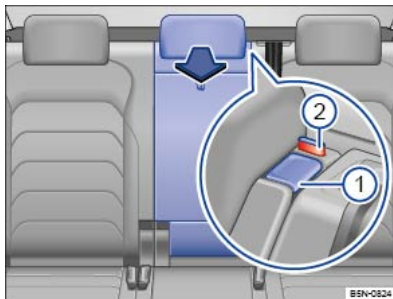

Fig. 190 In the rear seat backrest: opening the load-through hatch.
- Press the release button ⇒ Fig. 190 ① and fold the load-through hatch forwards ⇒ ⚠.
- Fold back the load-through hatch and push it firmly into the lock until it clicks securely into place. The red marking on the locking indicator ⇒ Fig. 190 ② should no longer be visible ⇒ ⚠.